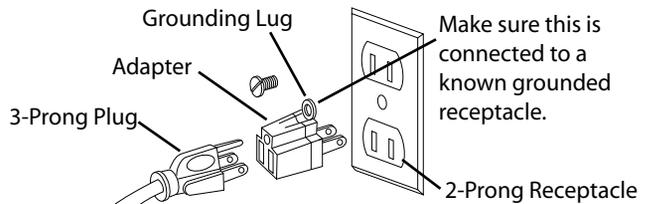

Figure 4 – 2-prong receptacle with adapter.
- A temporary 3-prong to 2-prong grounding adapter (See Figure 4) is available for connecting plugs to a two pole outlet if it is properly grounded.